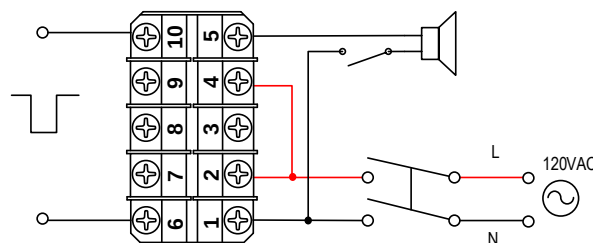

Figure 5. Rising-edge triggered signal.
- 7.a) Connecting a normally open (NO) momentary push button switch between the terminal (6, 7 or 8) to the COM (10). Please note, the function starts when you release (or open) the button of the switch, not when you press down the switch. See Figure 5.